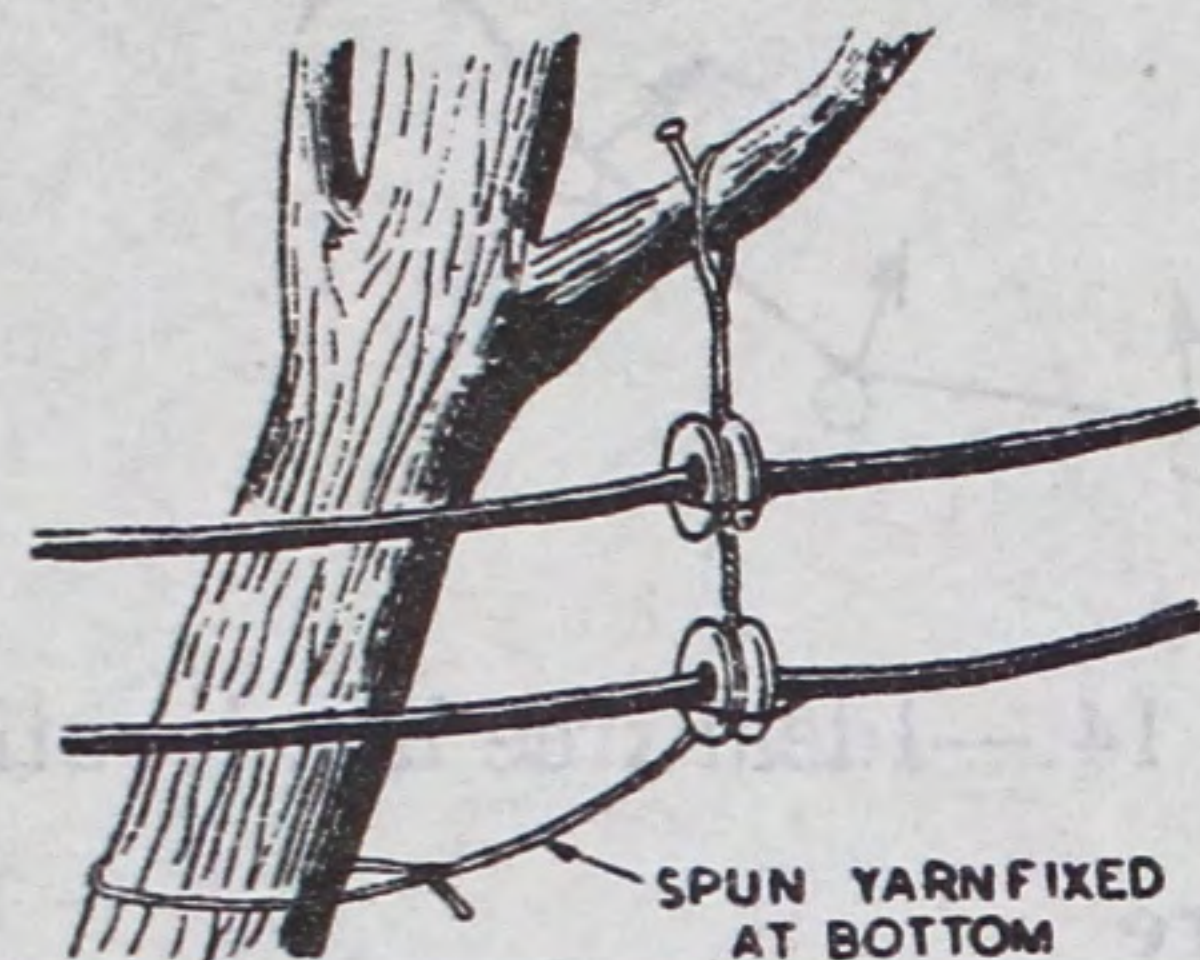

Fig 16.—Spunyarn tie-back
- (e) If the angle of divergence of the route from a straight line is other than slight, the sling should be fixed to the lower part of the tree with spunyarn (see Fig 16).